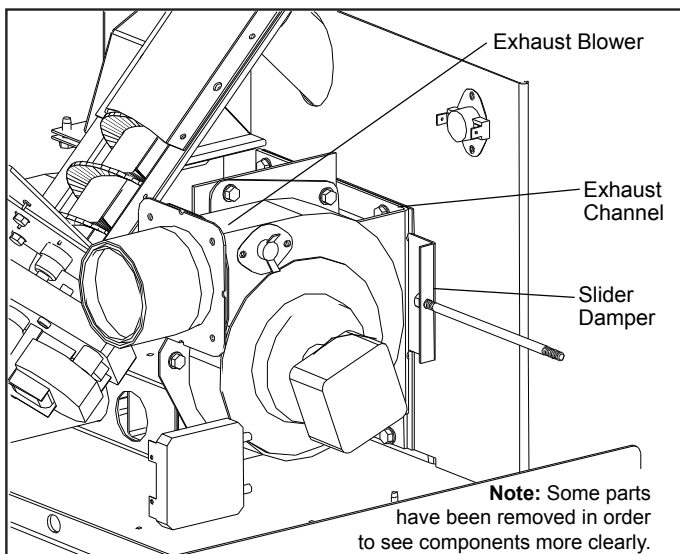

Figure 29 : Slider / Damper.
The slider damper is used to regulate the airflow through the pellet stove and is located behind the left cab side (refer to Figure 29). On freestanding model loosen the two 8-32 x 3/8" Torx screws, one on the side of the unit and one behind the removable panel, swing open left panel to access. On insert model remove the two (2) 8-32 x 3/8" Torx screws, one on the side of the unit and one behind the removable panel, and the one T-20 at the top of the cab side under the top front.